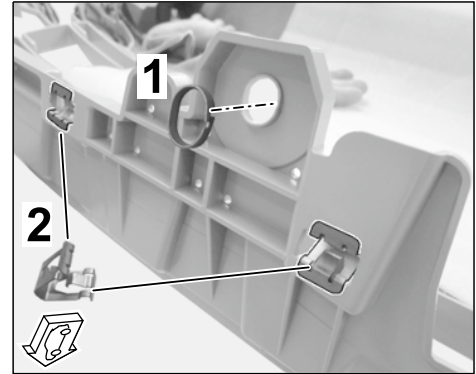

Figure 7
- 2.6.2 Fit spacer ring (2 x) using pliers in tab on (center) radiator grille at the top (⇒ Figure 7).
- 2.6.3 Fit clamp 9.0 x 13.4/4.0 (6 x) in the edge of the (center) radiator grille at the top (⇒ Figure 7).